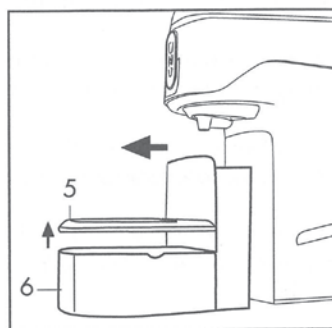
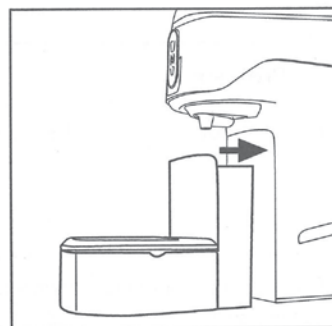

Fig. 10
Fig. 11
Empty the capsule container regularly to ensure that they do not get stuck. To perform this operation, take out the drip tray (6) and remove the grid (5) (Fig. 10) Empty the container, wash and dry the components, then refit the drip tray (6) and insert it in its seat (Fig. 11)